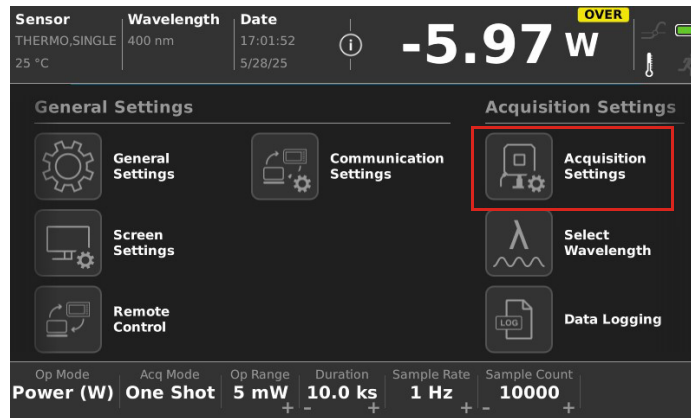

Figure 6-1. Settings Main Menu
4. Press the **Acquisition Settings** button. Refer to Figure 6-1.
2. Press the **Acquisition Settings** button. Refer to Figure 6-1.